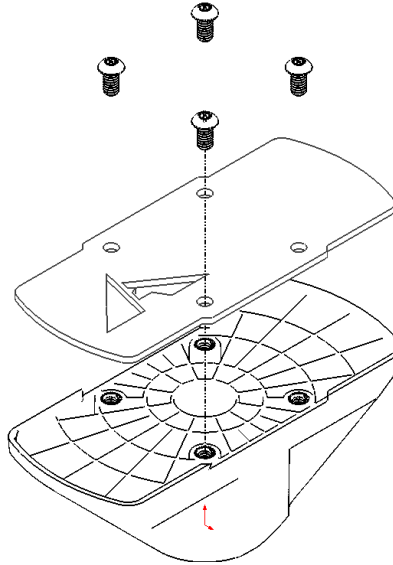

Figure 7: Wheel Wedge, Cover Mounting
6. Once everything is securely fastened, bolt the cover to the wheel wedge using the included special bit [70479], and bolts [70478] . Reference Figure 7.